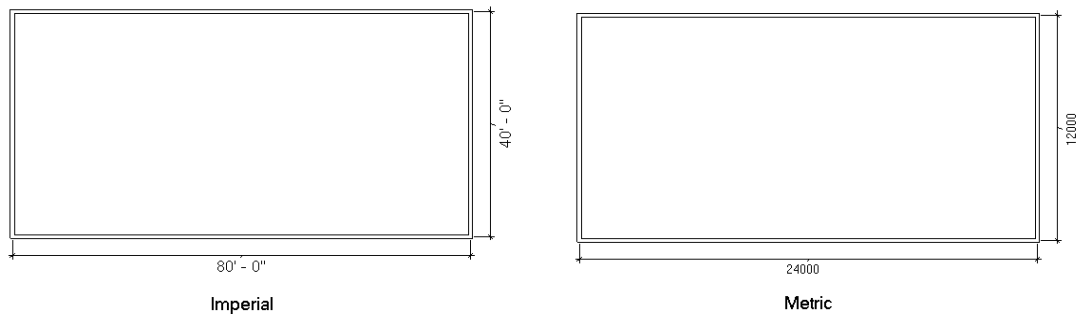

Figure 3-60 The completed exterior wall segment of Office Building
7. The external wall profile is drawn with the specified dimensions as shown in Figure 3-60.